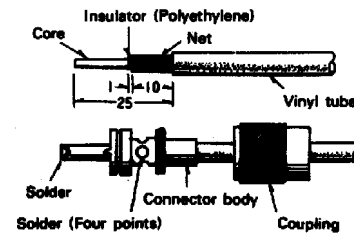

Fig. 9
An external antenna of 50Ω impedance is connected to this terminal. For connection, use an "M" type receptacle. Refer to Fig. 9.
2. When using an external antenna, connect it to the external antenna terminal at the rear. The whip antenna on the unit must be fully retracted. (See Fig. 9 for connection of the UHF type connector.)